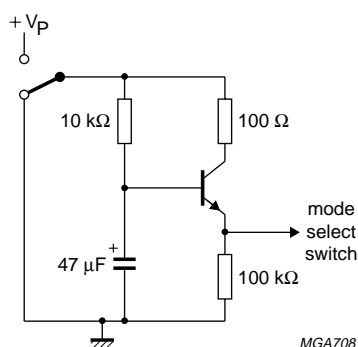

Fig.3 Mode select switch circuitry.
- External timing circuit (see Fig.3).